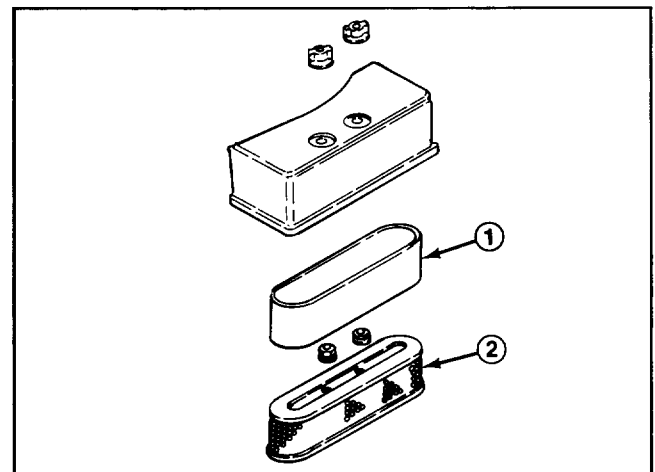

Figure 10
4. If foam element is dirty, remove it from paper element (Fig. 10). **Clean thoroughly.**